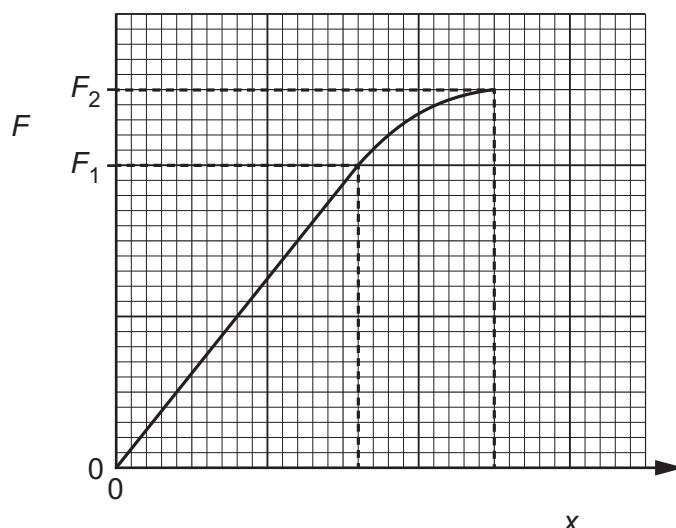

Fig. 4.2
- (iii) Another student repeats the original experiment in **(b)(i)**, increasing the force beyond F_1 to a new maximum force F_2 . The new graph obtained is shown in Fig. 4.2.
- On Fig. 4.2, shade an area that represents the work done to extend the wire when the force is increased from F_1 to F_2 . [1]